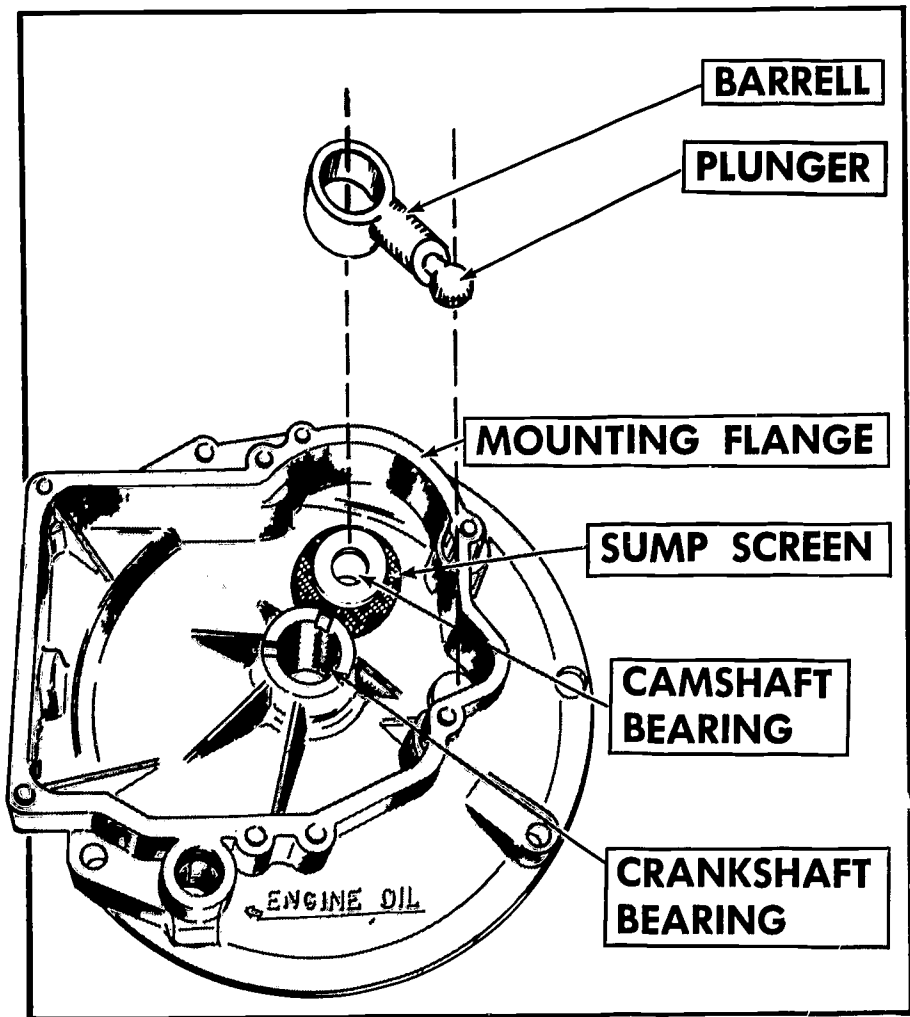

FIGURE 283. A removable barrel-and-plunger type of pump.
c. If your oil pump is a **removable barrel-and-plunger type** (Figure 283), proceed as follows:
2. Remove the pump (Figure 283).